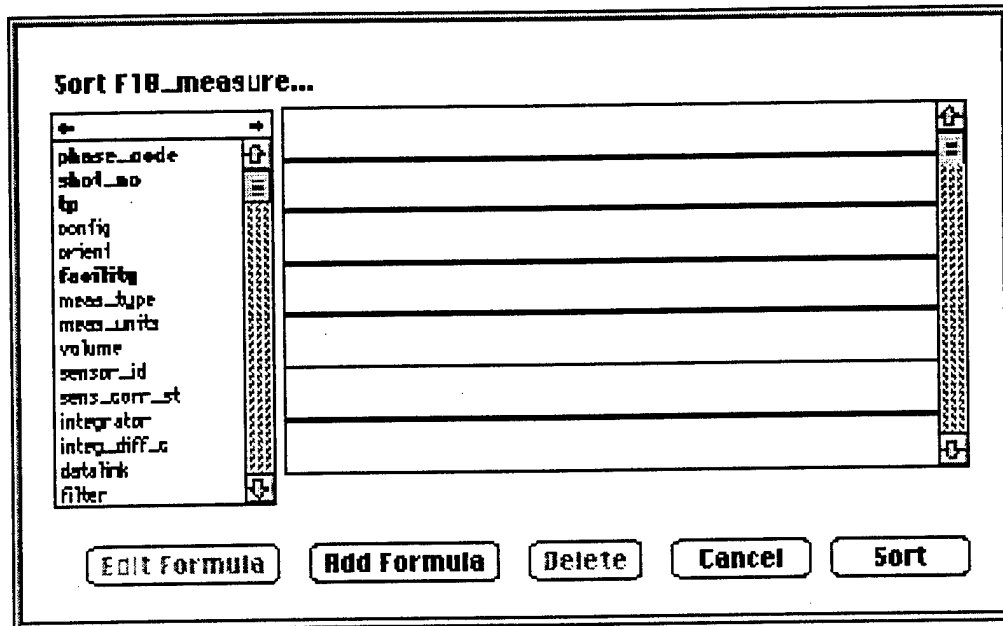

Figure 3.8: Sort Editor for f18 measurement table
2. Choose **Sort Selection...** from the **Select** menu. The sort editor, shown in Figure 3.8, will appear.